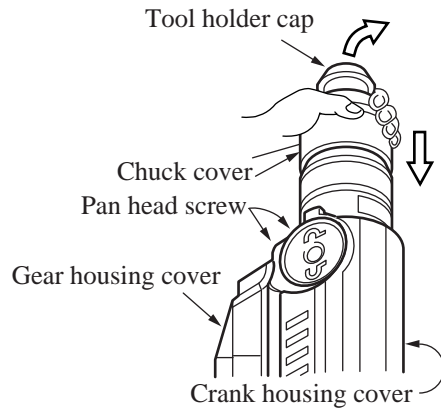

Figure 4
- a. Slide down Chuck cover and remove Tool holder cap.(See the figure 4.)
- b. Remove pan head screws, and then remove Crank housing cover and Gear housing cover.(See the figure 4.)